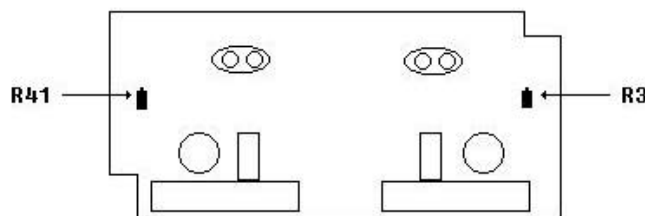

Figure 2. A3 input attenuator (component side).
- (6) Set signal generator frequency to 100 MHz and amplitude to 25 mV.
- (7) Position oscilloscope controls as listed in (a) through (f) below:
- (8) Adjust A3R41 (fig. 2)(A3R3 (fig. 2) for **CHANNEL B**) for a symmetrical waveform displayed on oscilloscope (R).